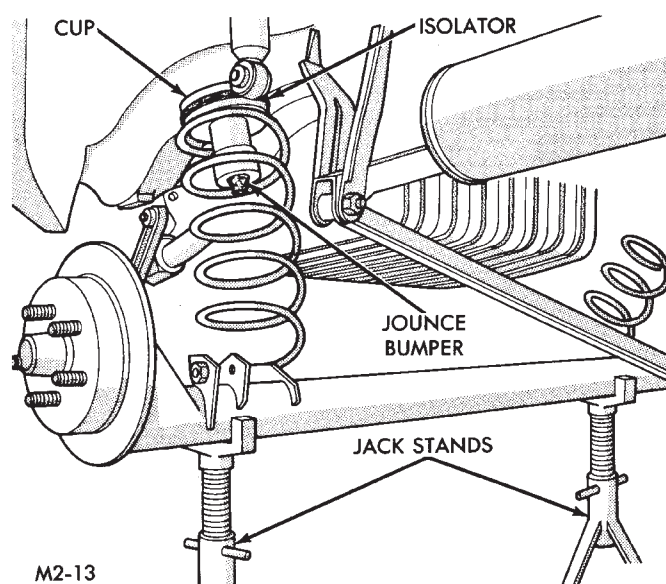

Fig. 3 Remove/Install Coil Spring and Isolator Assembly
(5) Lower axle until spring and isolator assemblies can be removed. Remove spring and isolator assemblies (Fig. 3).